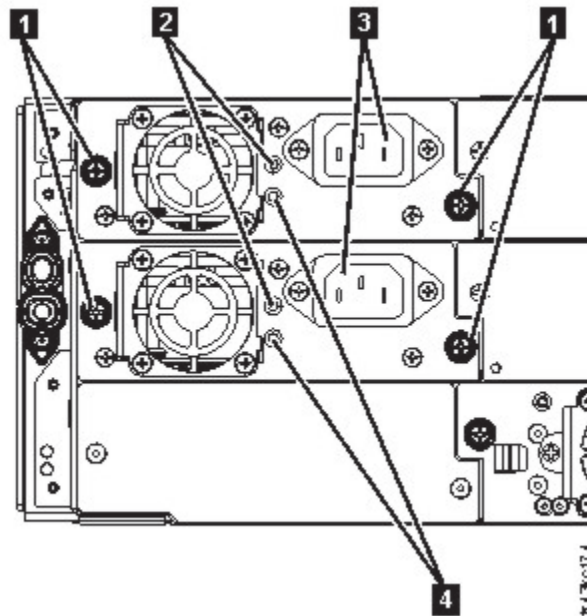

Figure 67. Power supplies
- The white (2 in Figure 67 on page 130) LED is lit.
- The green (4 in Figure 67 on page 130) LED is unlit.